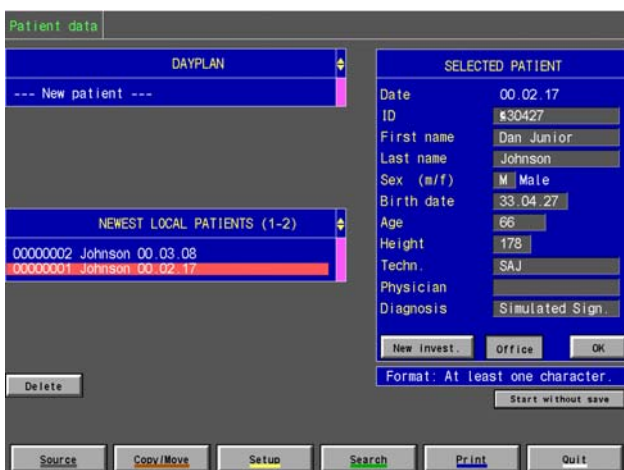

Figure 4 New Invest and OK Buttons. Vertical Scroll Bar.
When the Patient data has been entered, a  button appears in the lower right of the Selected Patient box, see Figure 4
- Use the vertical scroll bar to the right, to scroll through the listed patients. The scroll box moves in up- and downward directions, see Figure 4
- Then click  or  to proceed to select a test, see Figure 4